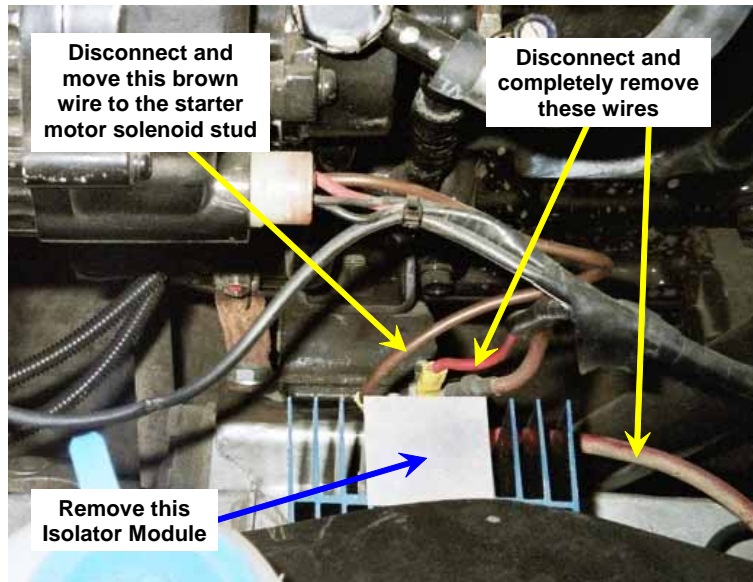

Figure 1 Removal of the Battery Isolator Module
- f. Disconnect the brown alternator (A+) wire from the 'A' (centre) terminal on the isolator module and discard the cable (see Figure 1). Disconnect the cable(s) running from terminal #1 on the isolator module and connect to the Alternator + terminal. Unbolt and completely remove the isolator module (Table 2, Item 6).